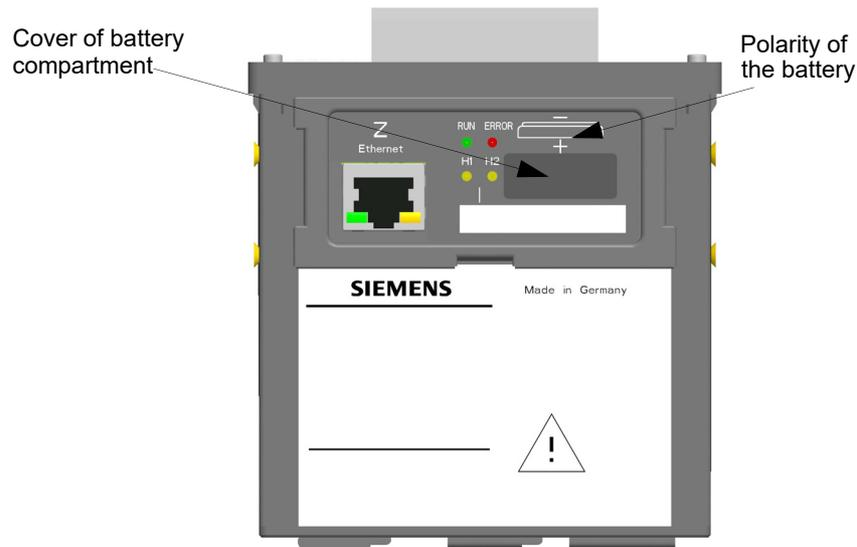

Figure 5-1 Top side of SICAM T
- ◇ Insert the battery into the battery compartment with the polarity imprinted on the top side of the device (refer to Figure 5-1).